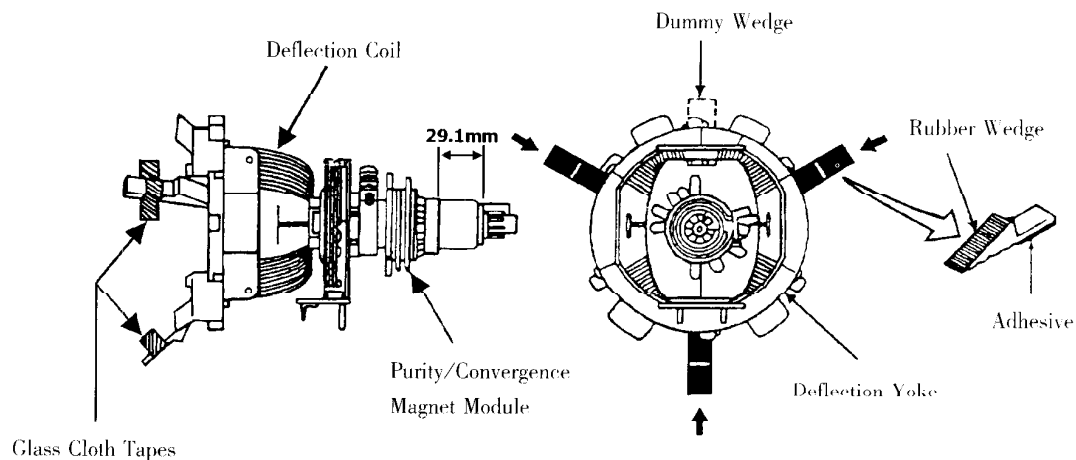

Fig. 9
The purity/convergence magnet assembly and rubber wedges need mechanical positioning. Refer to Fig. 9.
- 2) Temporarily put a wedge as shown in Fig. 9. (Do not remove cover paper on adhesive part of the wedge.)
- 9) Stick three adhesive tapes on wedges as shown in Fig. 9.